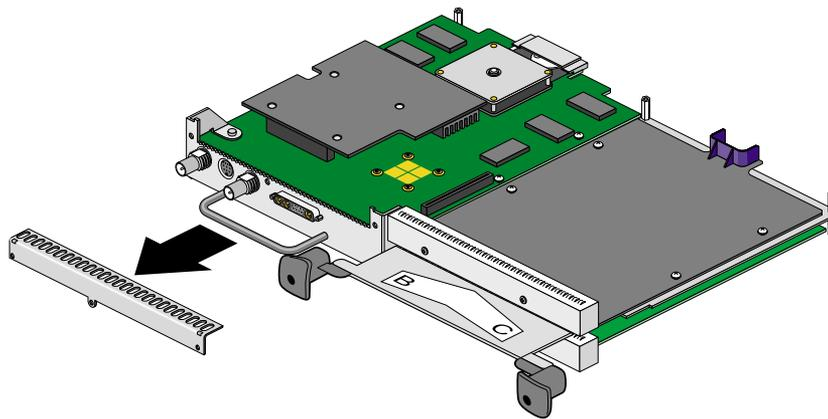

Figure 1-13 Removing the VPro Graphics Board Blank Panel
4. Remove the blank panel from the VPro Graphics Board, as shown in Figure 1-13. Store the blank panel in a safe place. If you remove the Display Option Board, you need to reinstall the VPro Graphics Board blank panel.